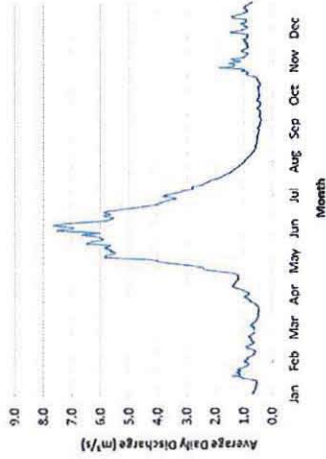

Figure 1. Average daily flow estimate for Coquihalla 2, data was taken from WSC station 08MF062 - Coquihalla River below Nicola Creek, 1965 - 2008.
- Low flow conditions are ideal for conducting in-stream works since diversion of flow and other diverting issues will be minimized. Average daily flows from 1965 to 2008 for WSC station 08MF062 - Coquihalla River below Nicola Creek were generated based on relative drainage basin areas (WSC Station basin area = 85.5 km^2 , Coquihalla 2 basin area = 43.7 km^2) and presented in Figure 1. The data illustrate the relative annual distribution of flows expected to be present at Coquihalla 2 crossing. It is noteworthy that flow at Coquihalla 2 typically flows subsurface from early August to mid October.